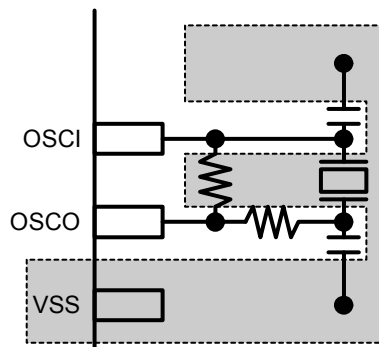

Figure 10.4 Example of oscillation circuit VSS pattern
- Shield the OSCI and OSCO pins and lines connected to those pins as well as the adjacent layers of the board using VSS. As shown in Figure 10.4, shield the wired layers as much as possible. Whenever possible, make the whole adjacent layers the ground layers, or ensure there is adequate shielding to a radius of five millimeters around the above pins and lines. Do not configure digital signal lines in parallel with components and lines even if such components and lines on other layers.